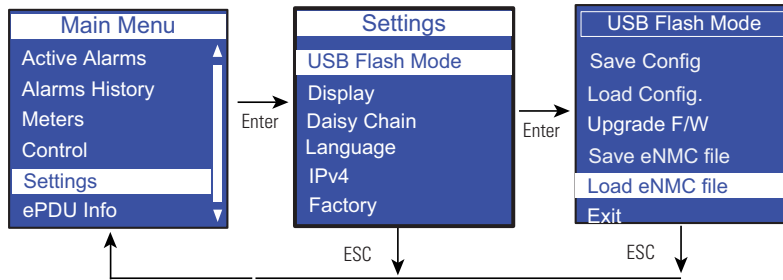

Figure 66. Example Load NMC File
4. Select Load eNMC file, then click **OK** to upload the ePDU hardware configuration file to the eNMC (see Figure 66).